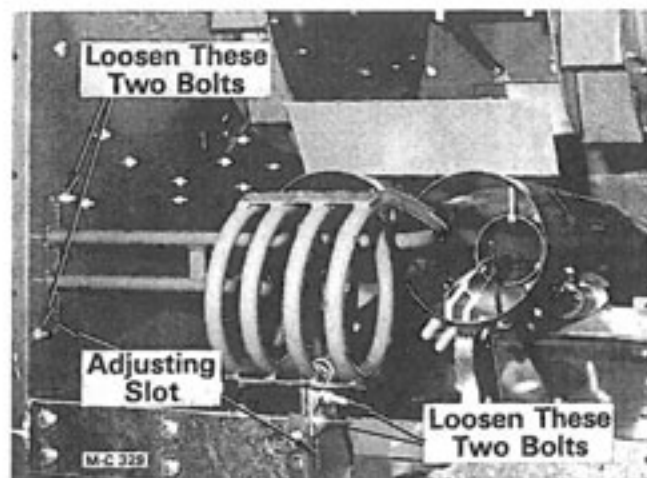

Figure 15
- E. Go into the plenum chamber and move the coil up or down for warmer or cooler, see Figure 15.